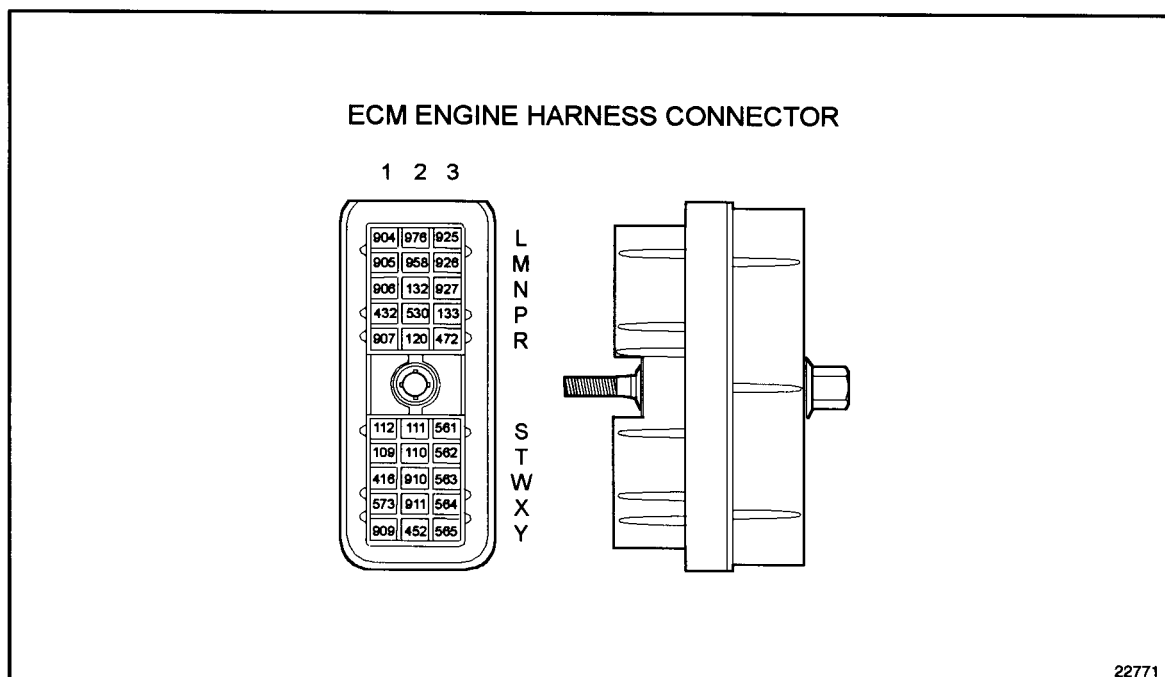

Figure 15-5 ECM Engine Harness Connector
3. Measure resistance between sockets MR2 (#120M) and Y2 (#452) on the master engine harness connector. See Figure 15-5.